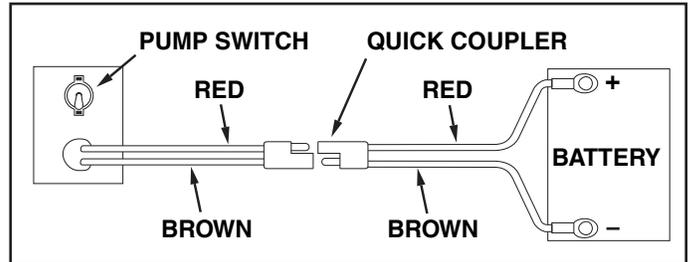

FIGURE 8
16. To connect the wire harness to the tractor, attach the red wire to the positive post on the battery or to the "HOT" connection on a tractor switch or ammeter. The brown wire may be grounded or connected to the negative battery post. See figures 8 and 9.